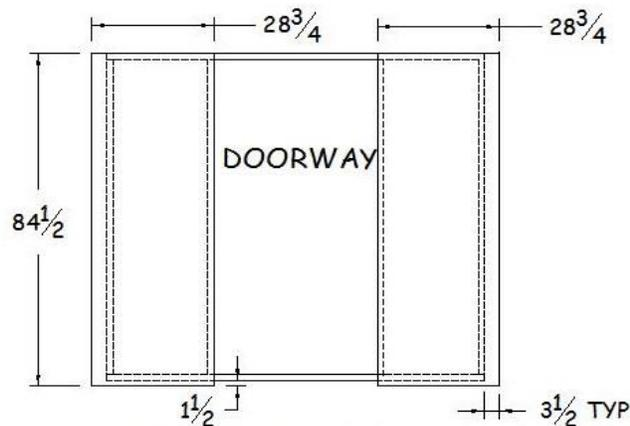

Figure 22-6. Front Wall Sheathing – One Req'd.
- b. Cut two pieces of 1/2" OSB 28 3/4" x 84 1/2". Position OSB rough side up flush with the edge of the door opening and flush with the top edge of the upper plate. There should be overhang of 3 1/2" on each side and overhang on the bottom plate of 1 1/2". A scrap piece of 2x4 can be used as a gauge for the 3 1/2" end overlap. Nail each piece of OSB into studs and both plates every 6" using 8d nails. See Figure 22-6.